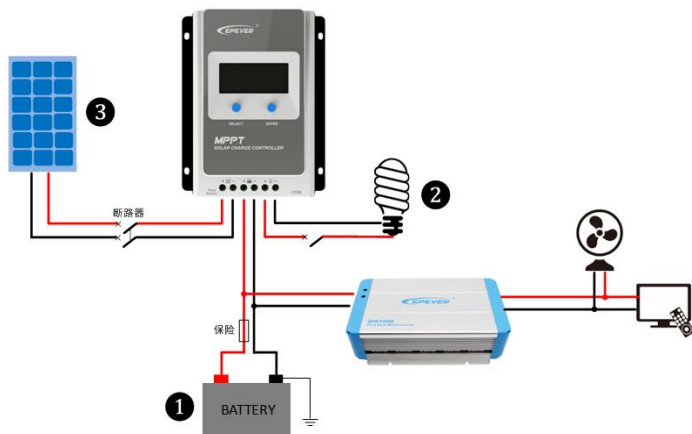

Figure 2-2 Wiring Diagram
**Step 2: Connect the system in the order of battery  -- load  --PV array  following Figure 2-2," Schematic Wiring Diagram," and disconnect the system in the reverse order.**